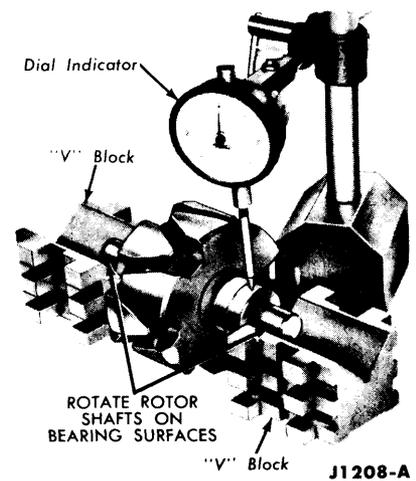

FIG. 47—Slip Ring Runout Check
7. Check the slip rings for damaged insulation. Check the slip rings for runout (Fig. 47). If the slip rings are more than 0.0005 inch out of round, take a light cut (minimum diameter limit 1.2 inches) from the face of the rings to true them up. If the slip rings are badly damaged, the entire rotor will have to be replaced, as they are serviced as a complete assembly.